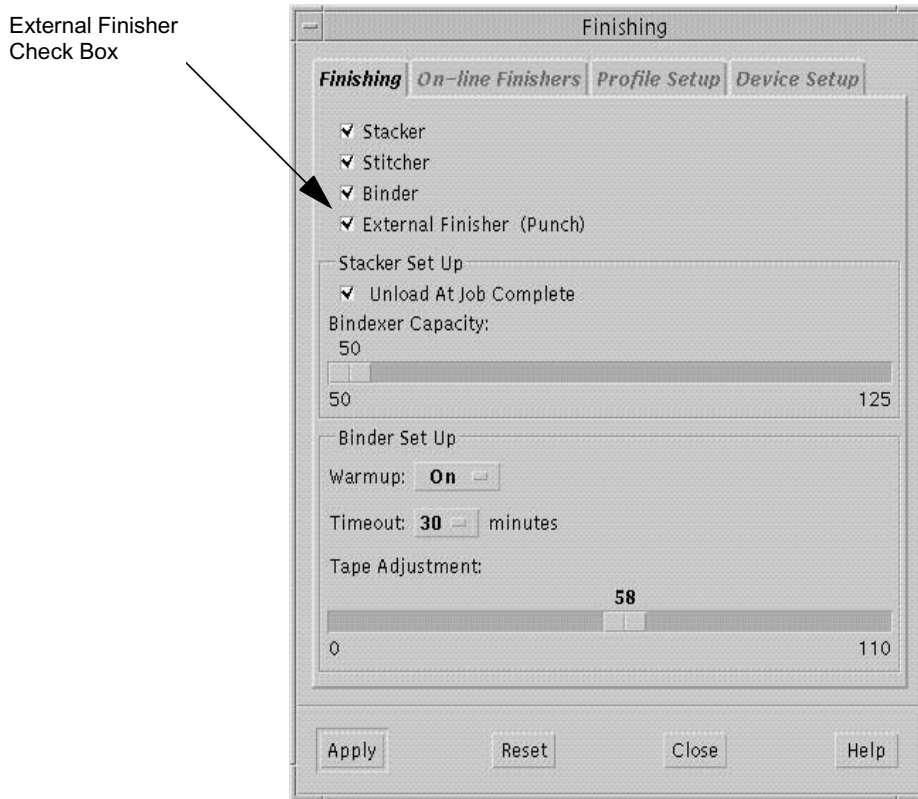

Figure 1-14: Finishing screen in the Finishing Window
The **Finishing** screen displays, as shown in Figure 1-14.
- 14 Ensure that the External Finisher Checkbox is checked and that the name of the correct device appears in parentheses to the right of External Finisher, as shown in Figure 1-14.